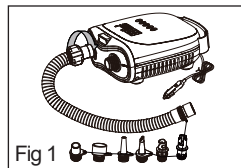

Fig 1
- * Connect the end with flexible conduit adaptor of the hose with the air pump inflation inlet and twist clockwise to tighten it, as Fig1.